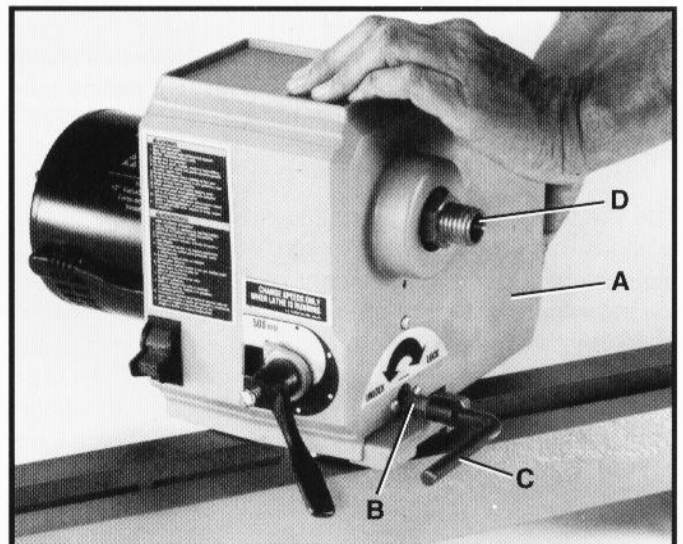

Fig. 25
1. To reposition headstock (A) Fig. 25, for outboard faceplate turning, carefully loosen locking shaft (B) with wrench (C) supplied, just enough to allow you to slide headstock (A) to the center of the lathe bed.
2. With headstock (A) Fig. 25, in position at the center of the lathe bed, rotate headstock (A) 90 degrees to the right until spindle (D) is facing out. Then tighten shaft (B) with wrench (C).